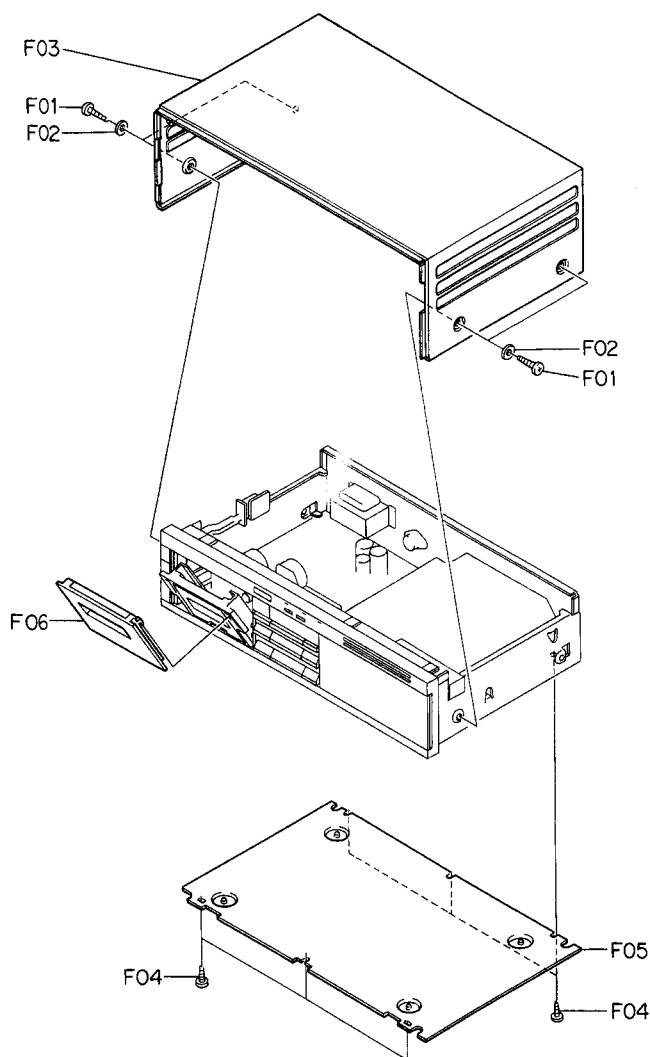

Fig. 2.1
Refer to Fig. 2.1.
- (1) Refer to Fig. 2.1. Remove Top Cover Ass'y and Bottom Cover Ass'y referring to items 2.1 and 2.2.
- (2) Pull out F01 (Volume Knobs) and remove F02, then disassemble F03 (Front Panel Ass'y including 6 connectors).
- (2) Remove 7 connectors and the wires connected by wrapping from F02 (Logic & Power P.C.B. Ass'y).
- (3) Remove F01, then disassemble F02 (Logic & Power P.C.B. Ass'y).
- (2) Remove the wires connected by wrapping from F04 (Dolby NR P.C.B. Ass'y).
- (3) Remove F03, then disassemble F04 (Dolby NR P.C.B. Ass'y) by releasing the self-interlocking pin of the P.C.B. Supporters.
- (2) Remove F01 and F02, then disassemble F03 (Rear Panel Ass'y).
- (2) Remove F04 and F05, then disassemble F06 (Power Transformer).